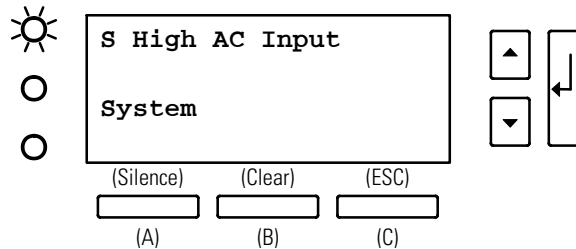

Figure 61. Typical System Active Alarm Display
Figure 61 shows a typical alarm display. Alarms are announced by a constant Alarm LED and a constant beep. During alarm display, button (A) silences the audible alarm, button (B) clears the alarm display, and button (C) performs the normal Escape function to exit from the alarm display. The \updownarrow button lets you scroll through all alarms.